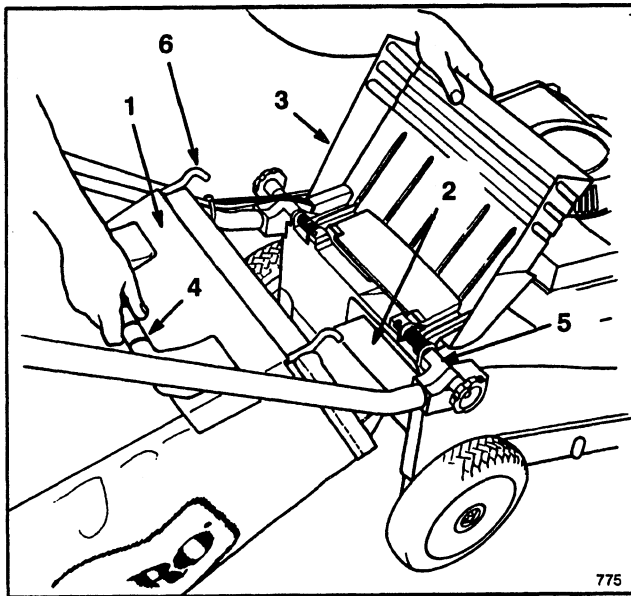
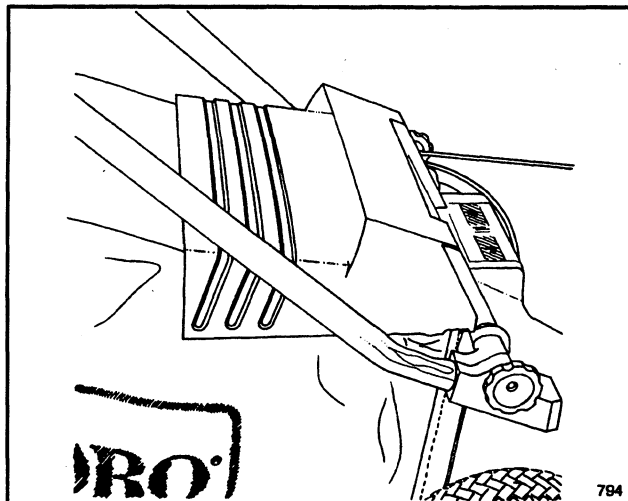

Figure 10
Figure 11
2. INSTALLING BAG—Raise discharge door, slide bag ramp attached to bag into discharge opening, and hook bag frame onto mounting brackets (Fig. 10). Allow discharge door to rest on top of bag (Fig. 11).